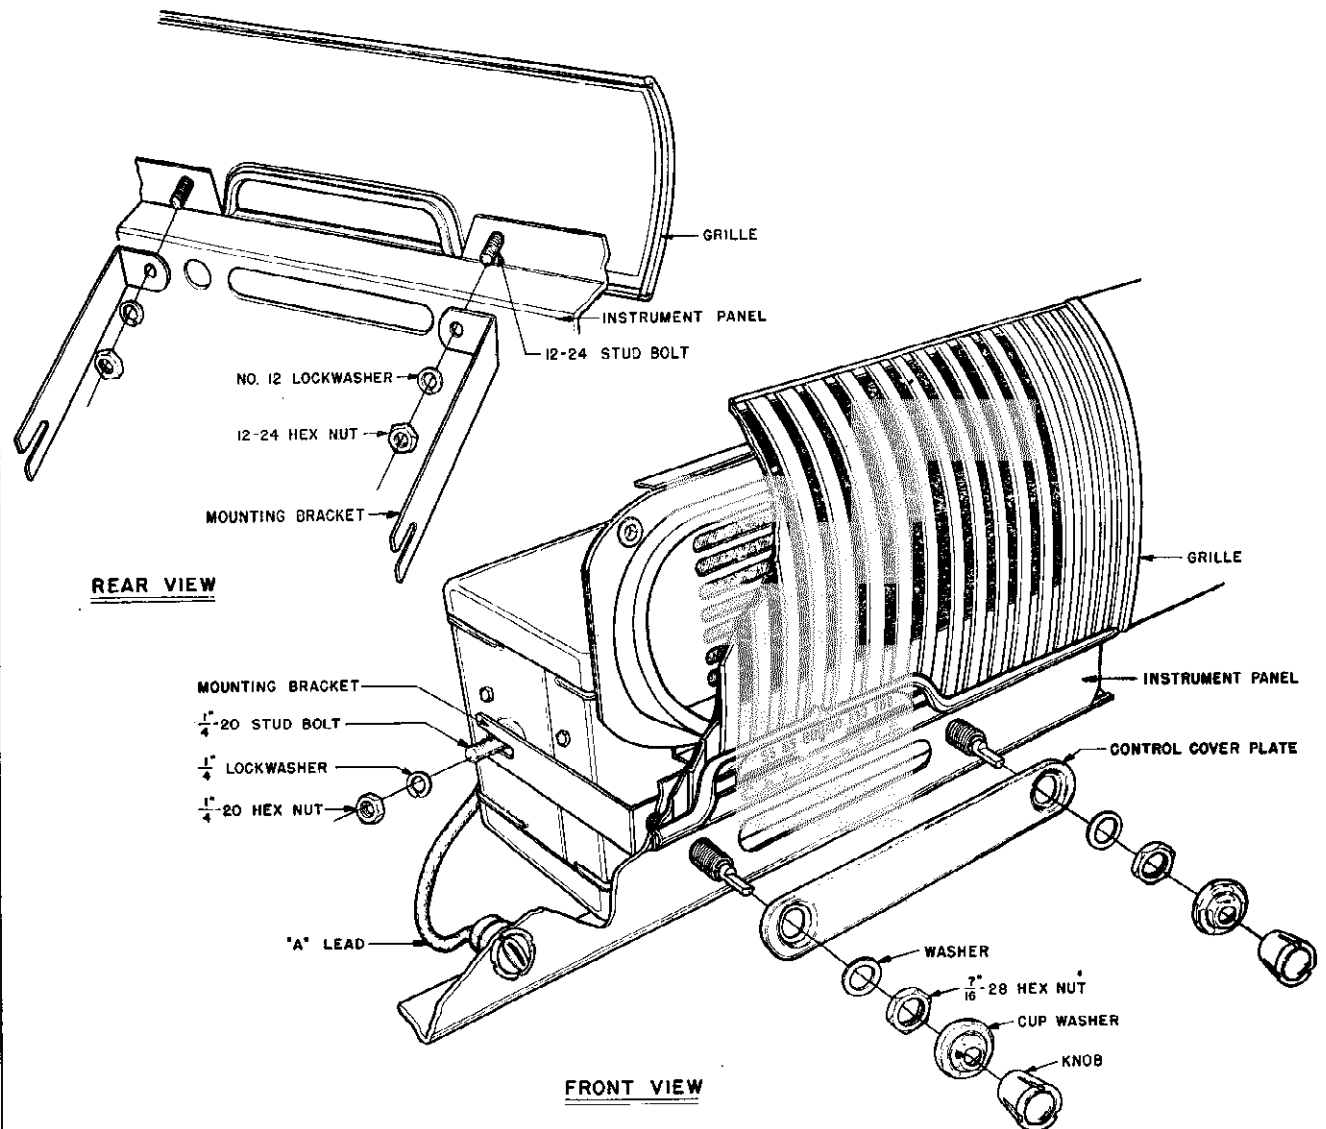

Fig. 2
3. Referring to Fig. 2 (rear view), place mounting brackets over 12-24 stud bolts and attach with #12 lockwashers, contained in kit of mounting hardware, and 12-24 hex nuts previously removed.
5. Referring to Fig. 2 (front view), position the receiver behind the instrument panel so that the shafts and mounting bushings protrude through the instrument panel and the stud bolts on the sides of the receiver slide into the slotted ends of the mounting brackets.
The following mounting hardware parts are shipped attached to the receiver. (See Detail Assembly drawing Fig. 2.)